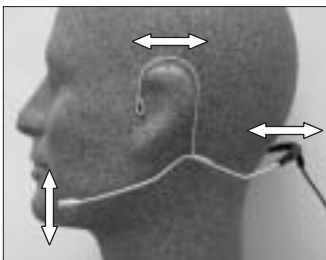

Fig. 3: Microphone position on the head.
1. Put the microphone on as shown in fig. 3.